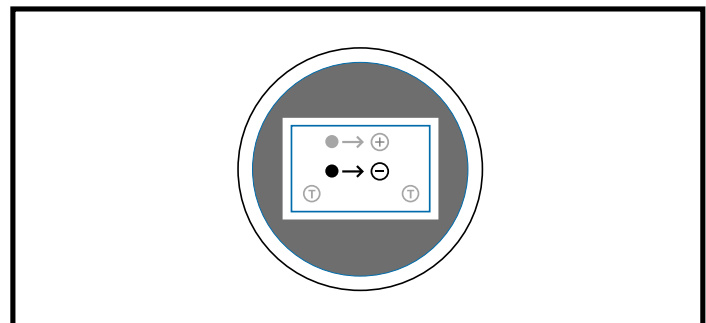

Figure 34. Battery Wiring Diagram Label
7. Reconnect the battery harnesses according to the battery wiring diagram label. See figure 34.